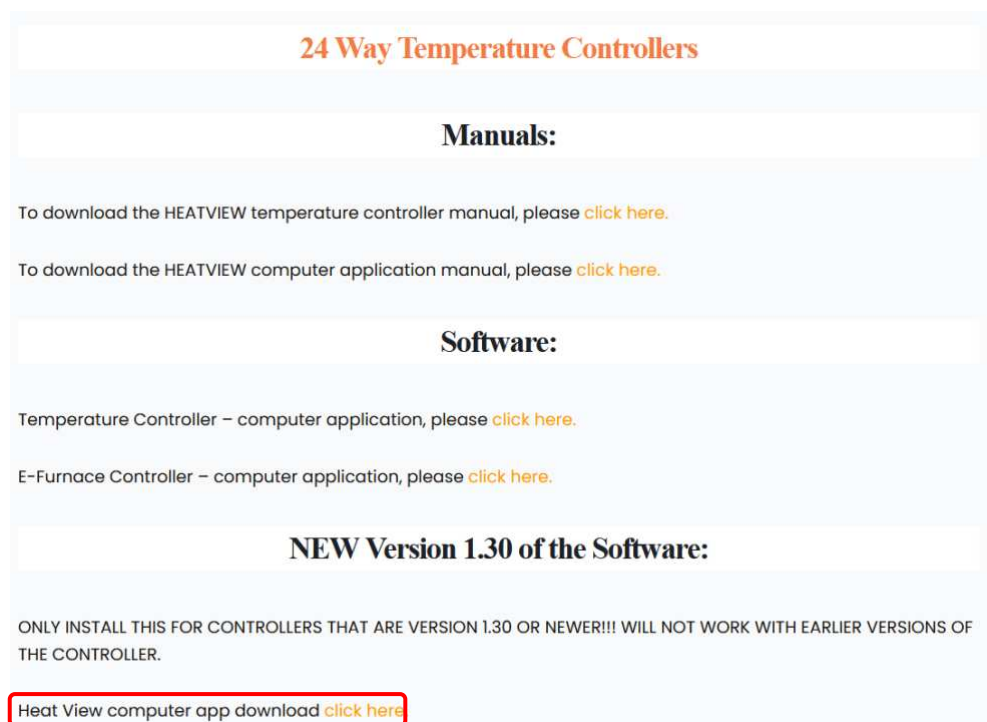

Figure 1: Application download link
1. Once on the Downloads page of the website, click on the "click here" download link next to "Temperature Controller – Computer application" as highlighted in Figure 1 below.